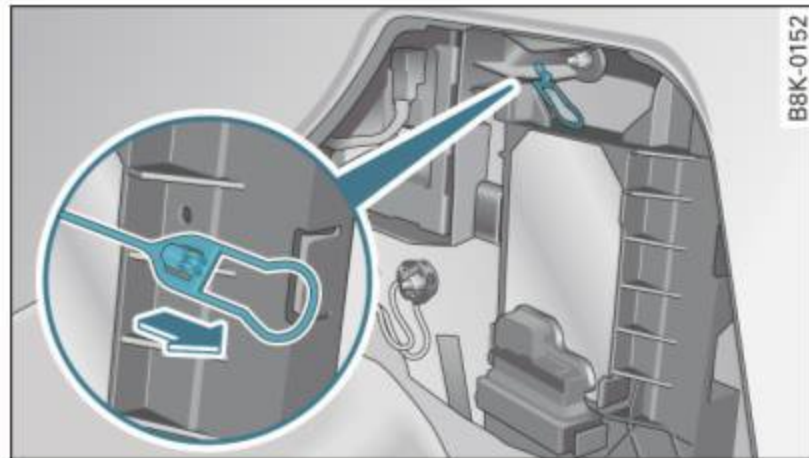

Fig. 198 Luggage compartment: Emergency opening of fuel filler flap
- Loosen the strap from its bracket and pull on it ⇒ fig. 198. Now you can open the fuel filler flap as usual. ■